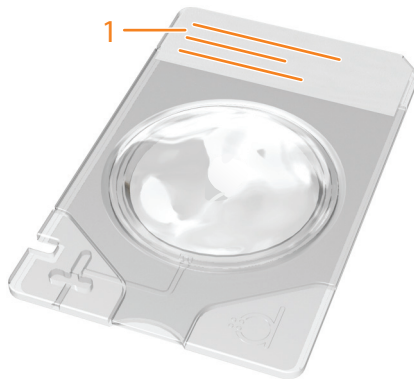

Figure 7. Maintainer card
- 1 Prepare the Maintainer card by writing the sample ID and card ID at (1) shown in Figure 7.